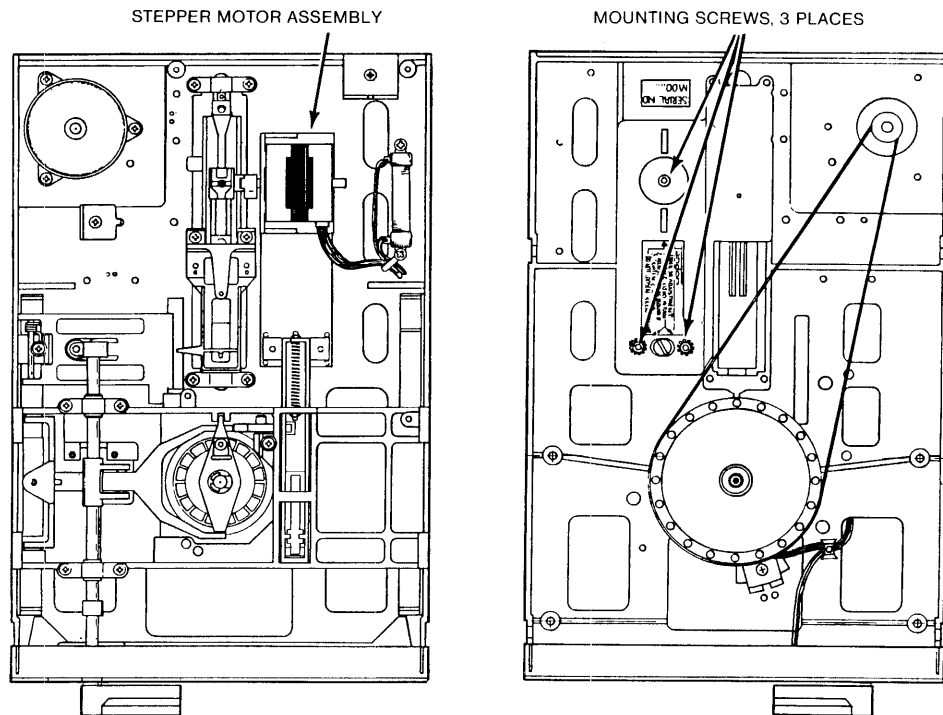

Figure 5-22
- C. Remove the three mounting screws that attach the Stepper Motor Assembly to the chassis (see Figure 5-22).